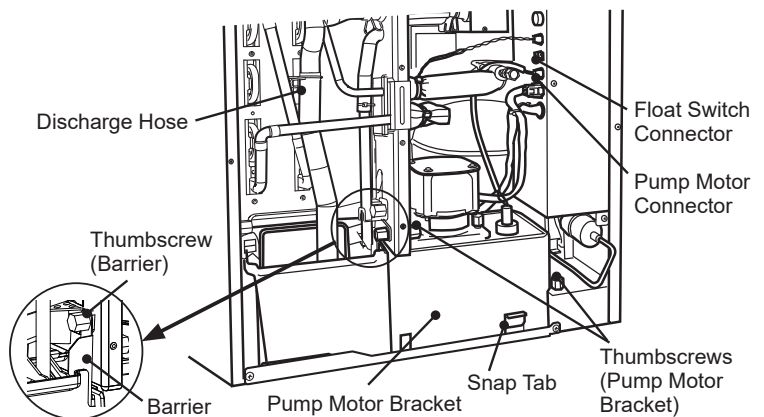

Fig. 3
- 2) Loosen the two thumbscrews securing the pump motor bracket. Loosen the thumbscrew and remove the barrier. See Fig. 3.
Be sure to let the discharge hose pass behind the copper tube and connect it securely in position. See Fig. 3. Otherwise, the discharge hose may be caught in the front insulation, leading to improper results.